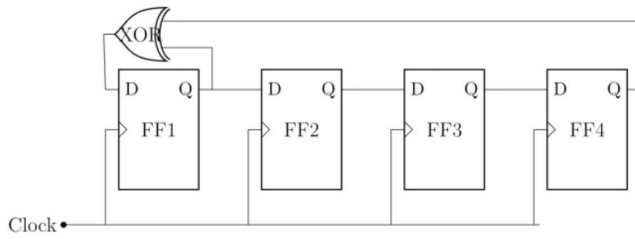

Fig. 4: Connection in XOR gate
- 4) Afterward, I established the connection for the XOR gate using a 7486 IC, as illustrated in Figure 4